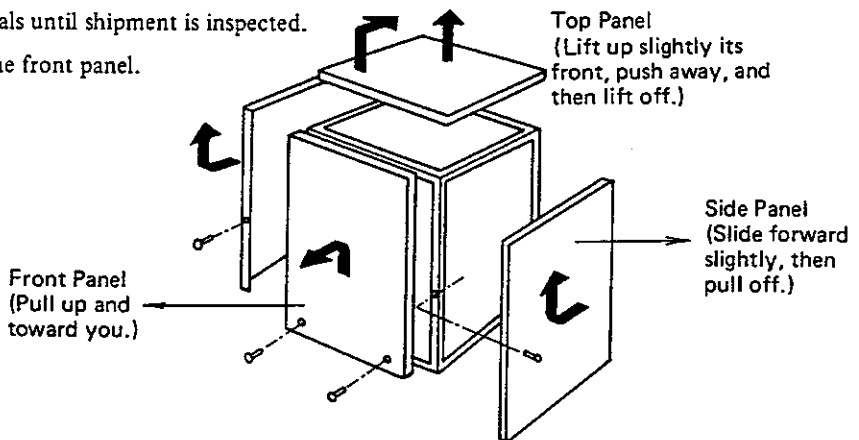

Fig. 8 Removal of cabinets
5. After unpacking, remove the cabinets as follows: (see Fig. 8).